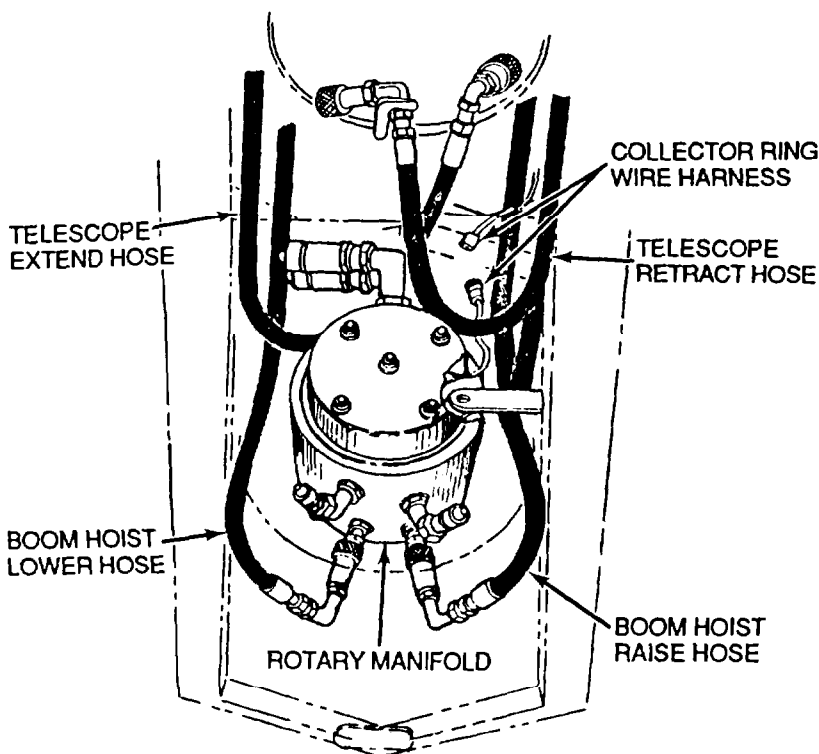

Figure 5-19 *Rotary Manifold Hoses*
4. Push the boom hoist cylinder hoses, sticking out through cutout in front of upperstructure, back inside and attach to fittings on rotary manifold (Figure 5-19).